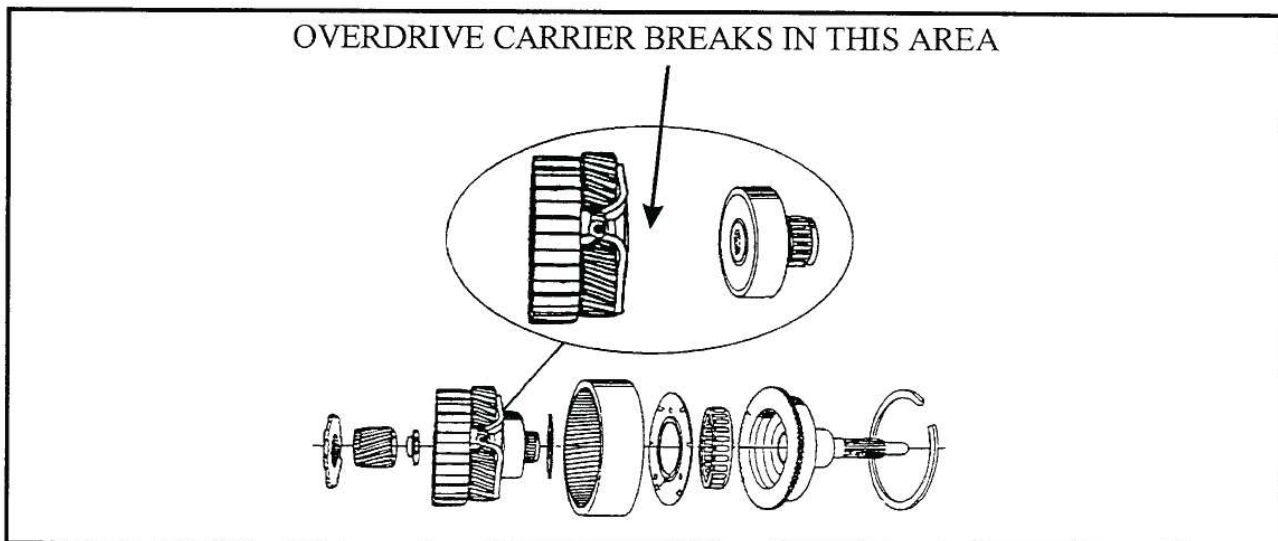

Figure 19
**CAUSE:** The cause may be, the overdrive sprag inner race broken loose from the carrier (See Figure 19). The problem is not always detectable because the bearing inside the carrier hides the broken area of the carrier. The sprag inner race and splined area for the input shaft "MUST NOT" turn. Use a little force if necessary to check this.